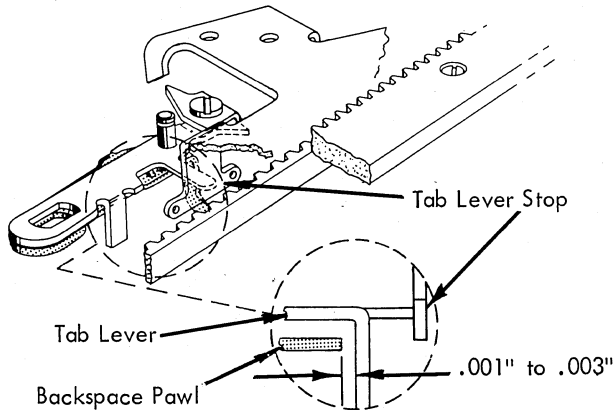

FIGURE 171. Tab Lever Stop
1. Tab Lever Stop - Form the stop on the escapement bracket (Fig. 171) to obtain $.001''$ to $.003''$ clearance between the vertical lug on the tab lever and the backspace pawl when the tab lever is at rest and the backspace pawl is fully seated in its rack.